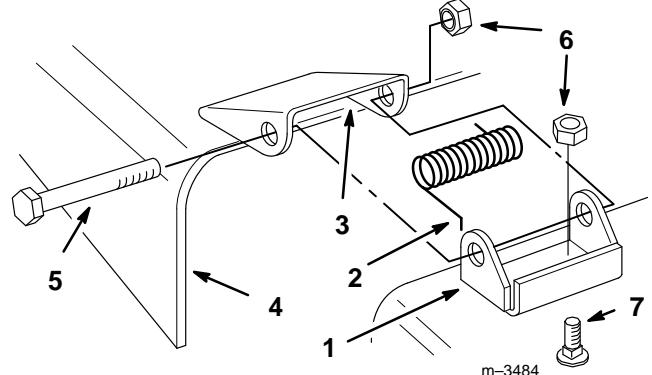

Figure 38
1. Install mounting brackets onto the mower with 5/16 x 3/4" (19 mm) carriage bolts and 5/16" locknuts (Fig. 38).
2. Place springs into brackets on mower with hooked ends over raised back (Fig. 38).
2. Align the discharge chute with holes in brackets and spring straight ends in space under hinge and above chute (Fig. 38).
3. Secure the chute to the bracket with bolts through the discharge chute, springs and brackets. Secure with locknuts (Fig. 38).